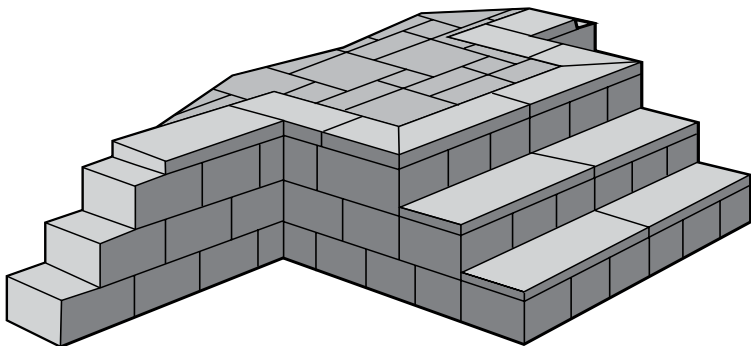

Figure 46. Protruding steps
*Protruding steps* - This structure is constructed in the same manner as the L-shaped steps, one course at a time. However, in this arrangement, it is necessary to construct two inside corners and two outside corners. The sidewalls can be built in either battered or vertical arrangement. If the sides batter toward each other, each riser will be narrower than the course below (Figure 46).